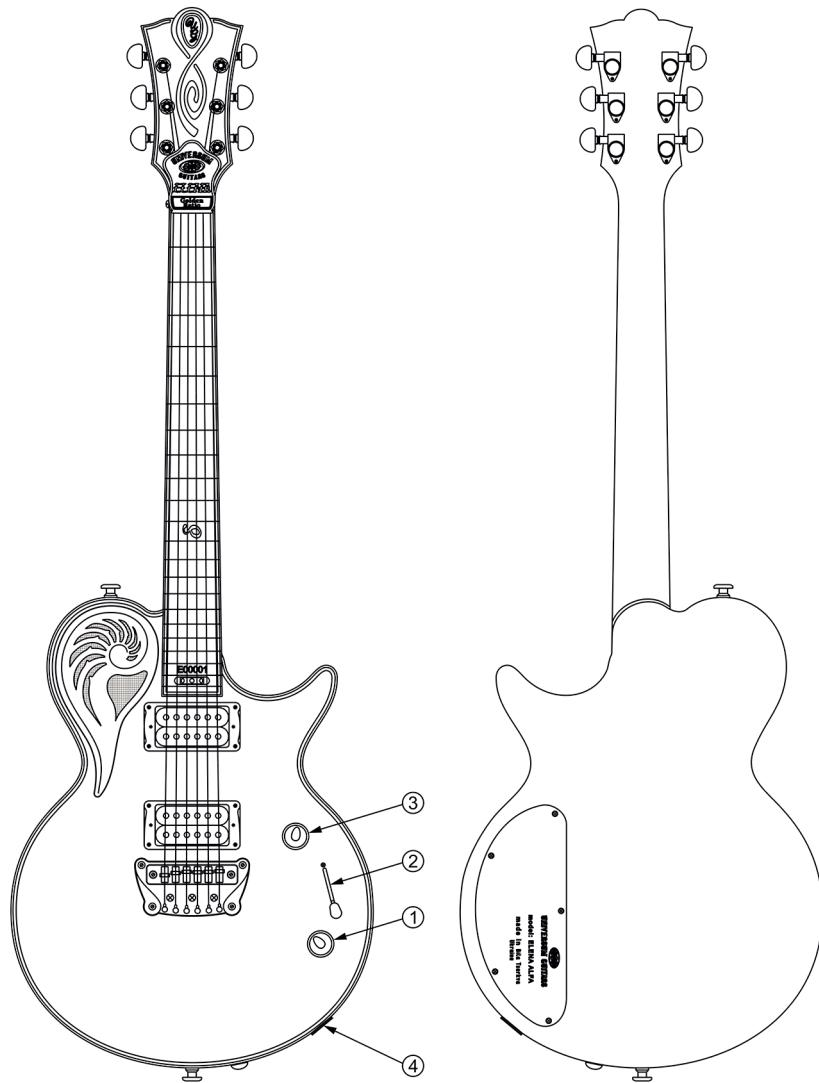

Fig. 20
- Output connector - electromagnetic (Fig.20 Pos.4).
- 1) Tone adjusting potentiometer handle (Fig.20 Pos.1) with a two-position switch of “Push-Pool” type. The switch performs one coil tap in each electromagnetic pickup.
- 2) Three-position switch-selector handle (Fig.20 Pos.2): switches the combination of electromagnetic pickups commutation.
- 3) Electric guitar volume adjusting potentiometer handle (Fig.20 Pos.3).